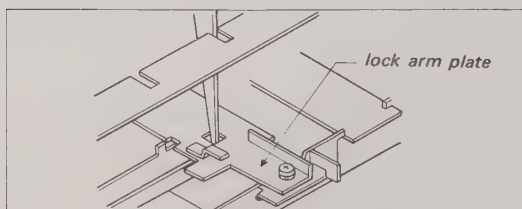

Fig. 5-28. Lock arm plate removal
4. Remove the lock arm plate on the slide plate of PLAY button (See Fig. 5-28), and then fix it to the new function button assembly.